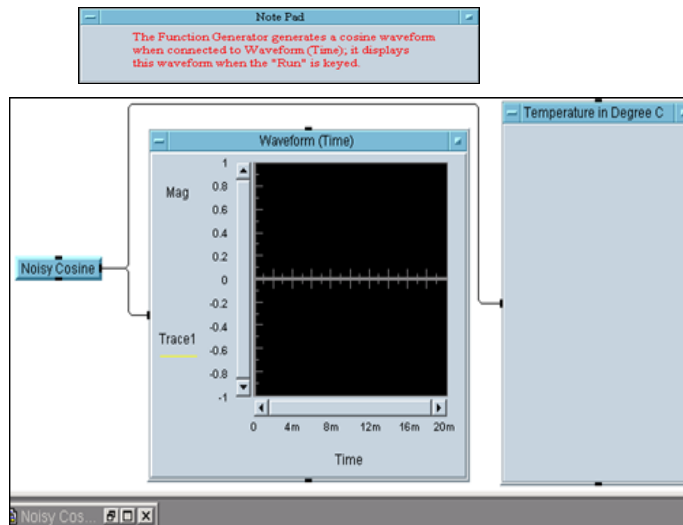

Figure 1-17 The iconview of the Noisy Cos function
- 8 Go to the upper-right corner of the UserObject and click on the horizontal bar; it will send the UserObject, in the form of an icon, to the bottom left of the Main work area. Its Icon View will also appear in the Main work area. See Figure 1-17.